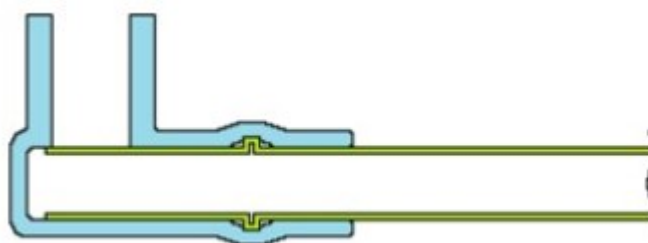

Fig. 3
1. Is the purge tube pushed too far into the elbow (Fig. 2) (Fig. 3) ?